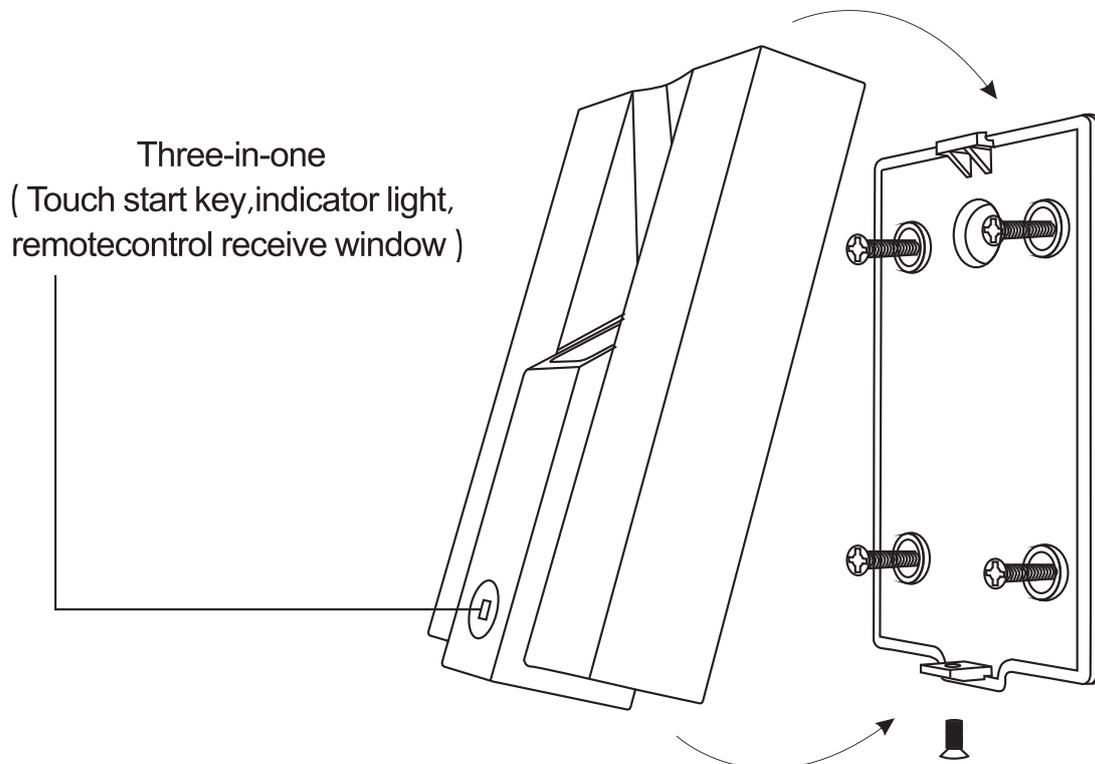

Figure 1 Installation diagram
2.1.1 Following the figure 1 and draw the installation and cable hole on the wall.
2.1.4 Fasten the front cover on the back shell with anti-vandal screw as in Figure 1.